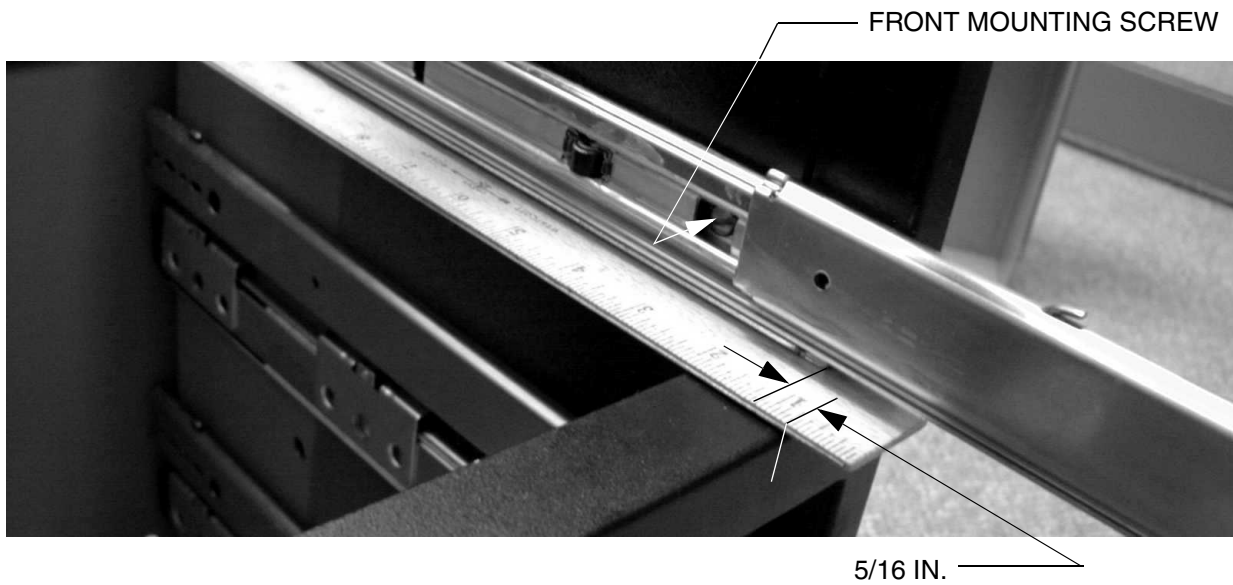

FIGURE 3. Slide Front Mounting Location (right side shown)
7. Position the drawer slide marked 'R' into the right side of the cabinet. Place a 1/8 in. thick shim (or wooden ruler of the same thickness) between the bottom of the slide and the cabinet opening. Position the lower portion of the slide 5/16 in. from the front of the cabinet as shown in Figure 3.
Use a level or square to ensure the slide is perpendicular to the cabinet, then using the fourth hole from the front of the slide as a template, mark this location. See Figure 3.